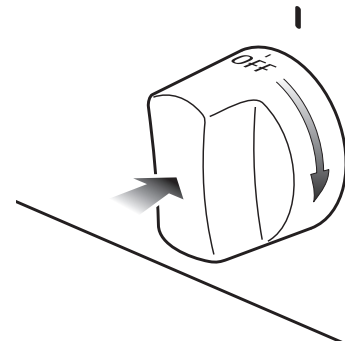

Fig. 3.4
2) Press the oven control knob right down and, keeping it pressed, turn clockwise (fig. 3.4) to the ★**BROIL** position.